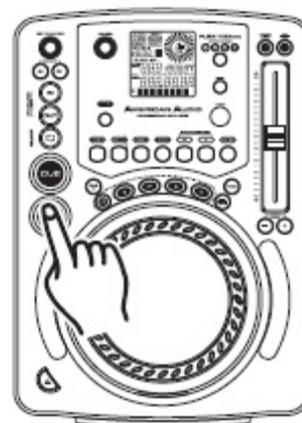

Figure 10
3. DÉMARRER LA LECTURE – Figure 10
5. ARRÊTER LA LECTURE – Figures 10 et 11
6. METTRE SUR PAUSE – Figure 10